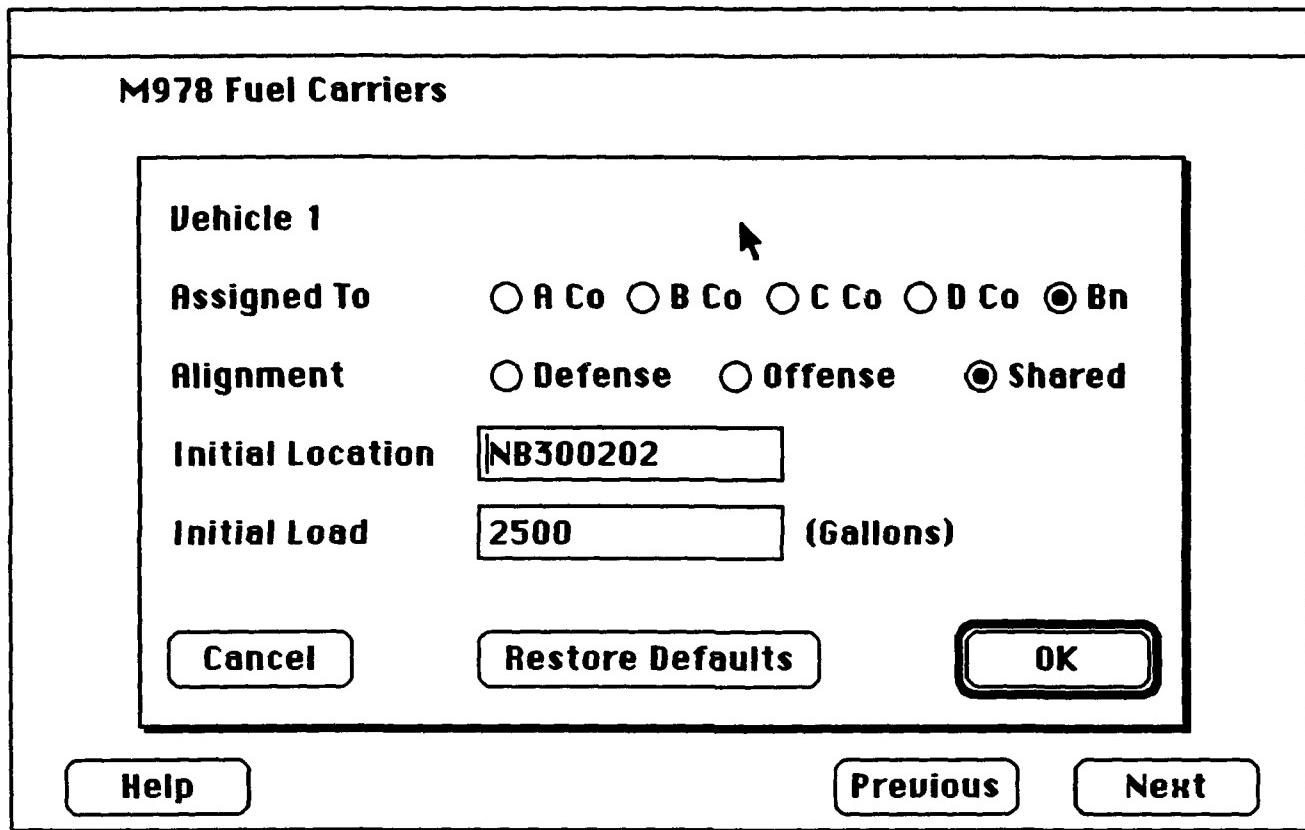

Figure 5.8-15 Fuel Carriers details
Step 1: To set parameters individually for each vehicle, click anywhere on the selected vehicle line. This will cause a new window to appear on top of the one currently shown. An example is shown in Figure 5.8-15.